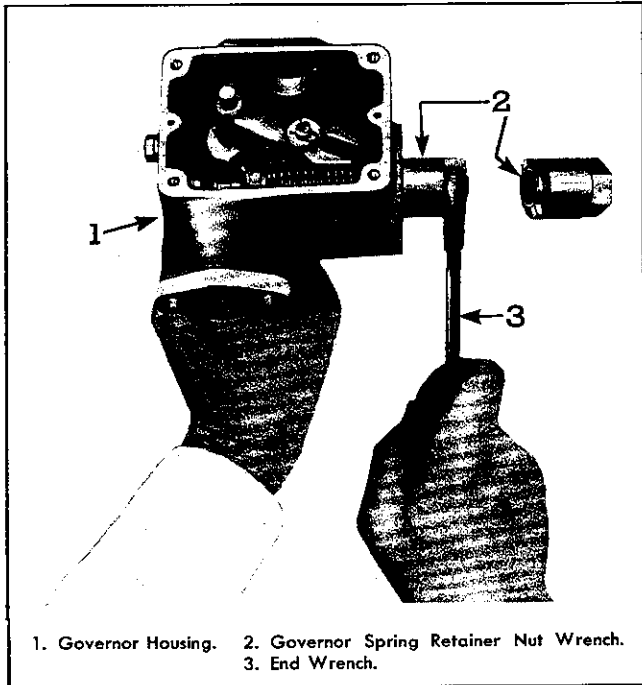

Fig. 5—Removing Governor High Speed Spring Retainer Nut with Tool J-1652.
3. Support control housing in vise, and using Tool J-1652, as shown in Fig. 5, remove high-speed spring retainer nut, (48) Fig. 2, then remove retainer and spring assembly from housing.